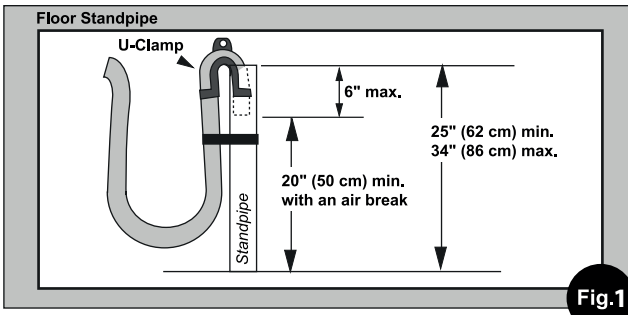

Fig.1
It is possible for the water to be discharged into a sink, standpipe or drainpipe, but an air break must be available at a min. 20" height to prevent the machine from siphoning (Fig. 1).
- Insert the outlet end of the drain hose into the standpipe, wall or floor drain (Fig. 1). **NOTE:** The outlet end of the drain hose **MUST** be at least 20" (50 cm) above the base of the machine. No more than 6" of the drain hose should be inserted into the drain pipe to prevent siphoning.